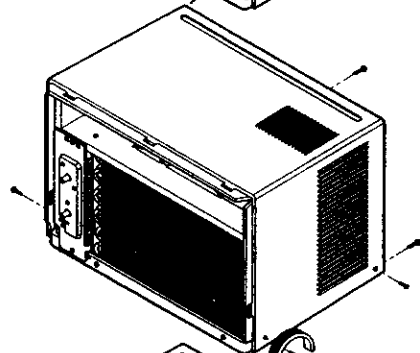

Figure 3
3. Remove 6 screws that secure the cabinet to the base pan. (See Figure 3)